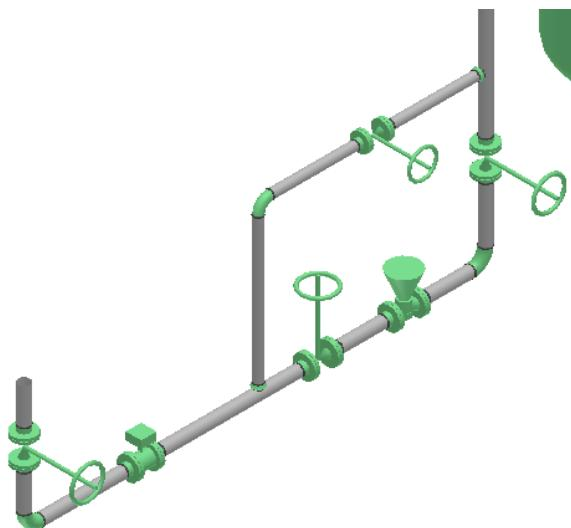

Figure 55: Placed Gate Valve
41. Click **Finish** on the **Insert Component** ribbon to place the pipe component, as shown in Figure 55.